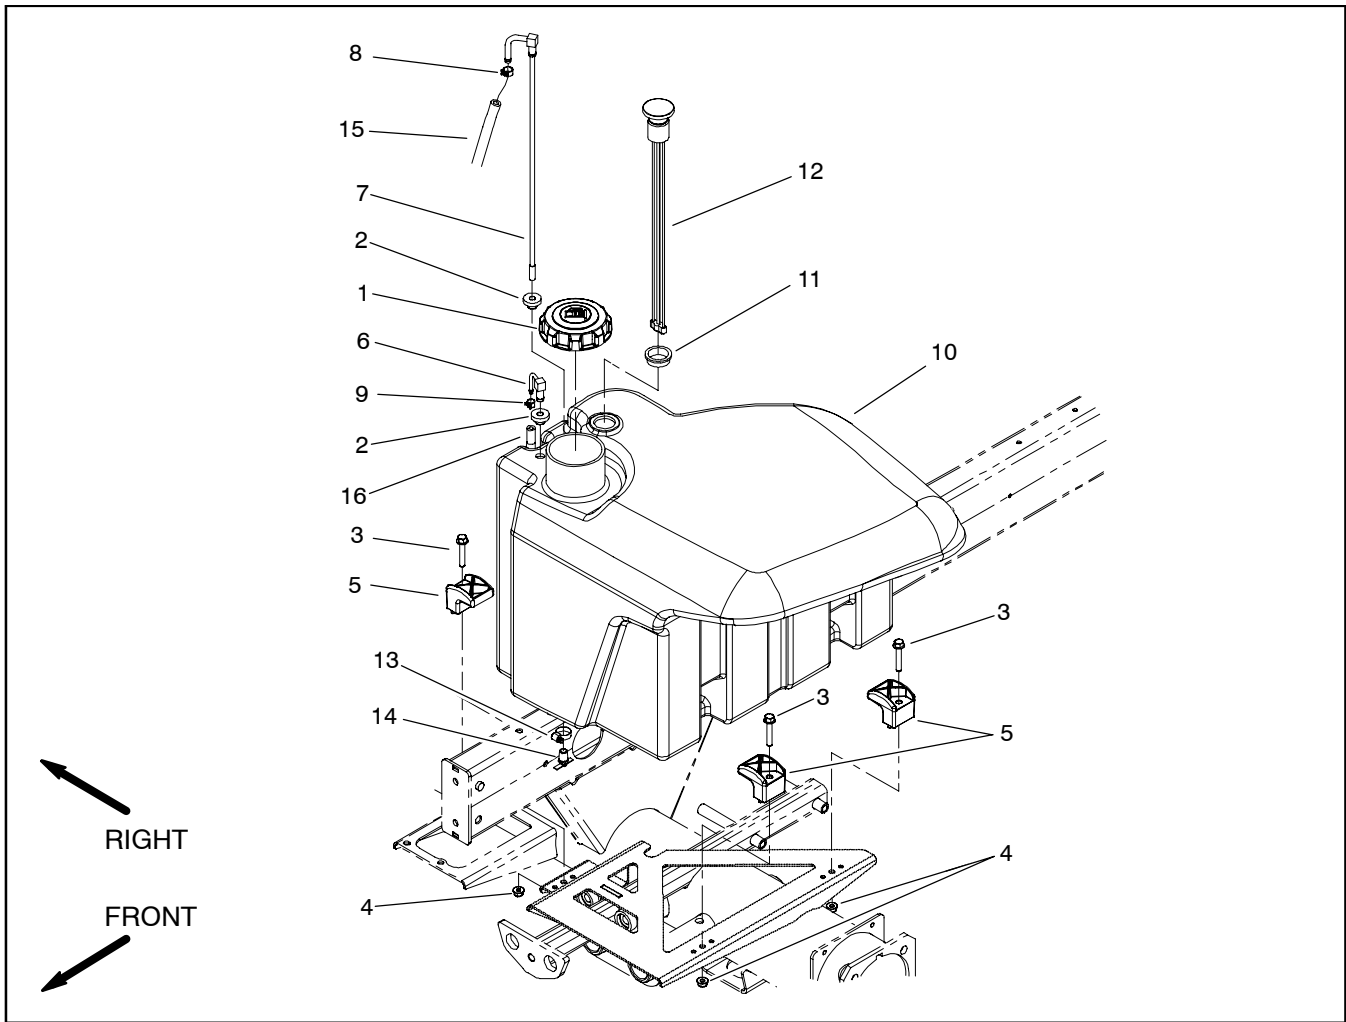

Figure 2
### Fuel Tank Removal (Fig. 2)
4. Loosen hose clamps and disconnect fuel hoses from suction (item 7) and return (item 6) fittings on the top of the fuel tank.
5. Remove fuel tank using Figure 2 as a guide.
### Fuel Tank Installation (Fig. 2)
1. Install fuel tank to frame using Figure 2 as a guide.
2. Correctly connect fuel hoses to suction (item 7) and return (item 6) fittings on the top of the fuel tank. Secure fuel hoses with hose clamps.